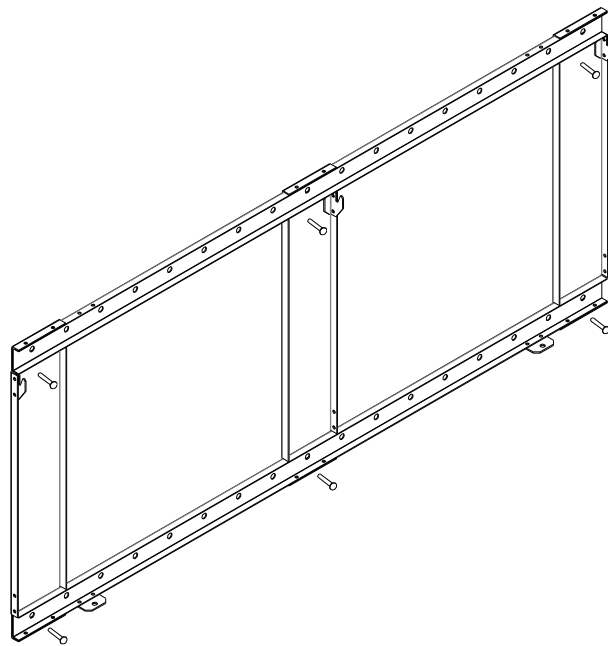

Fig. 4
- Fix the bracket by 4pcs  $5 \times 40$  screws (Fig. 4)